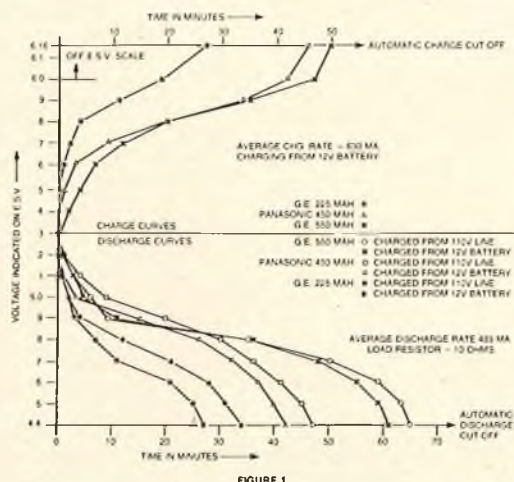

FIGURE 1
Referring to Figure 1, it is seen that the G.E. high rate cells deliver an average of 485 ma for over 60 minutes. This indicates a healthy pack. A faulty cell, or old pack with many cycles of use, will show less than an hour. In fact, if it discharges in only one half hour, it has a capacity of only approximately half of what it should be. This battery should be retired before it causes a crash. If the modeler will run a curve on his battery, he can tell not only what shape it is in, but also how many
- 7) Using the graph, plot your curve. (Example in Figure 1.)